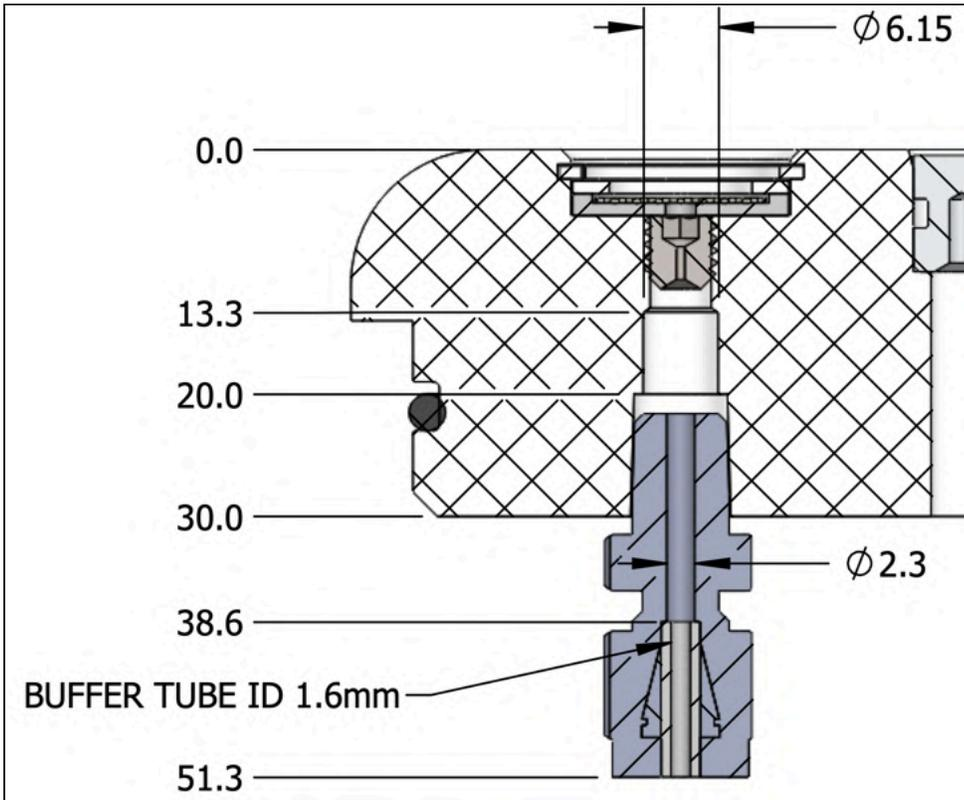

Figure 2 - Buffer tube interface assembly
- b. The buffer tube interface assembly drawing (Figure 2) shows that there are several features in the buffer tube assembly where the needle can get stuck, moving the needle side to side will allow you to clear these features and fully insert the needle.